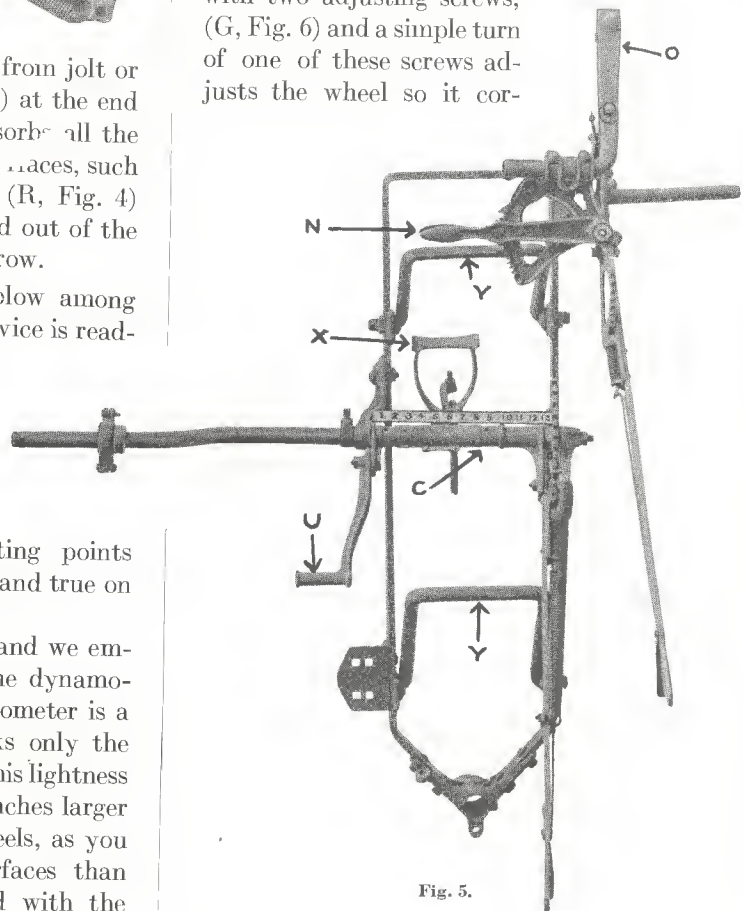
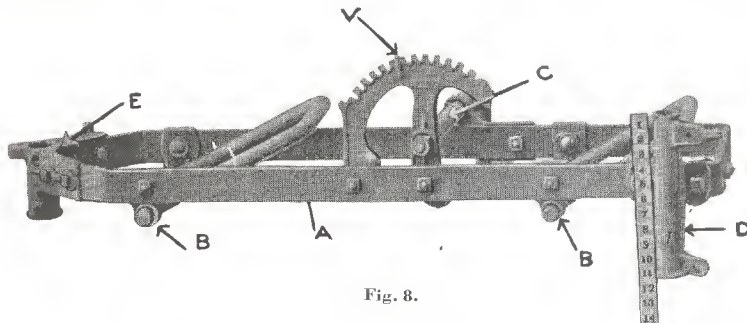

Fig. 5.
Fig. 8.
**The Frame**—which is the foundation on which its life depends—is made in one piece, from a single heavy bar high carbon steel (A, Fig. 8). Then, to add to the great strength which one piece insures, the axle of the land wheel extends across almost at the middle (C, Fig. 5) and is securely fastened to both sides of the frame, making a powerful brace where most needed. This axle also forms an ample support for the weight and strain of the plow. It distributes this great strain evenly upon the frame without any destroying twist. Most other plows, as you know, have the land wheel axle at the left hand side of the frame, and this short axle, with its liability to loosen the supporting bolts, and even cut them off under the twisting strain, has caused farmers an enormous expense in time and money.
We called attention to the firmness of the plow in the frame, and this is largely due to the short bails and bail brackets. They carry the great side strain of the plow bottom in the shortest and most rigid connection direct (B, Fig. 8) to the frame, insuring great durability and freedom from springing, and overcoming a most serious